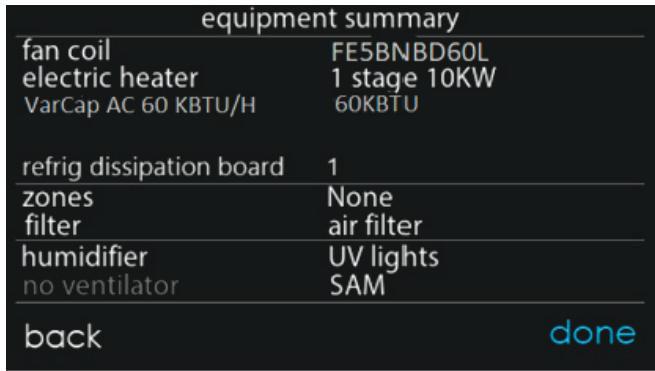

Fig. 11 – Equipment Summary Screen
4. The Evolution™ Connex™ System Control will then advance through the remaining learning processes including the setup of accessories such as filter type, UV light, and humidifier. Upon completion of the setup screens, the equipment summary screen will be presented (Fig. 11). Verify the correct equipment is shown on this screen. Next an airflow verification test is executed before returning to the main screen.